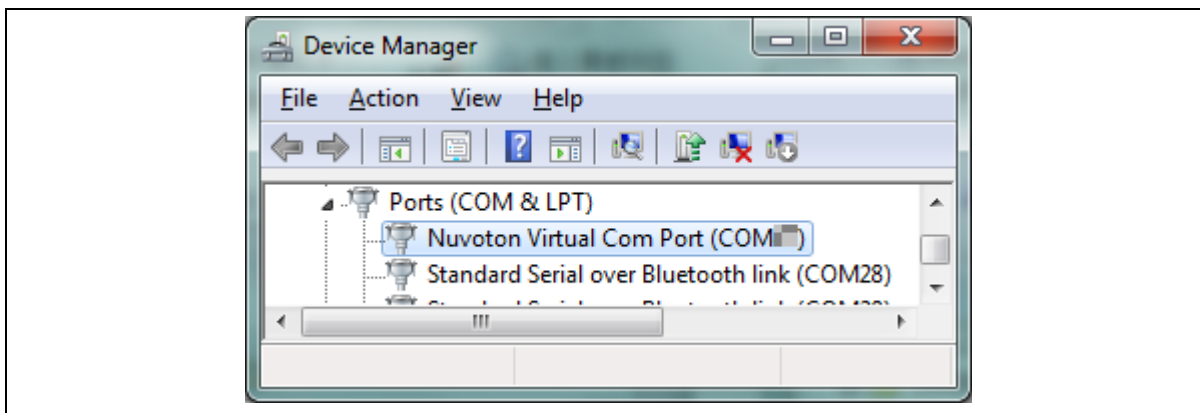

Figure 5-5 Device Manger
- Find the “Nuvoton Virtual COM Port” on the Device Manger as Figure 5-5.